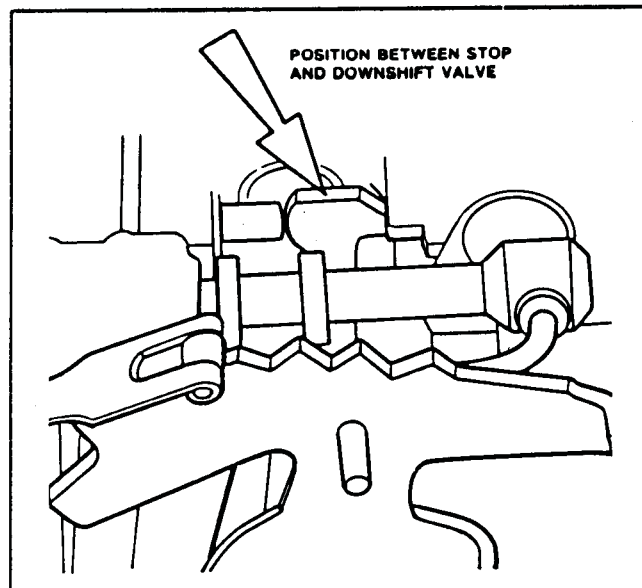

FIG. 54 Correct Seating of Inner Downshift Lever
27. Before proceeding further be sure the inner downshift lever is seated between the stop and the downshift valve (Fig. 54).